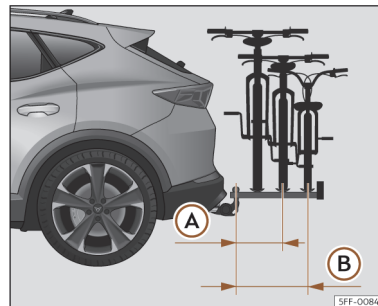

Fig. 191 Schematic representation of the maximum load overhang of a bicycle rack for two or three bicycles.
- (A)** With up to 55 kg load capacity: 500 mm (approx. 19.7 in)
- (B)** With 75 kg load capacity: 700 mm (approx. 27.6 in)
The maximum overhang shall not exceed 500 mm from the centre of the ball head to the to the centre of the rail of the last support >>> **Fig. 191 (A)** for two-bicycle racks. In the case of three-bicycle racks, the overhang must not exceed 700 mm >>> **Fig. 191 (B)**.